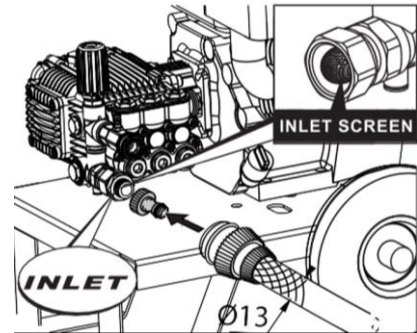

Fig. 11
- Connect the garden hose to the pump inlet port (ensure the hose is no longer than 15 meters and has a diameter of at least 13 mm). Tighten securely. See Fig. 11 for illustration.